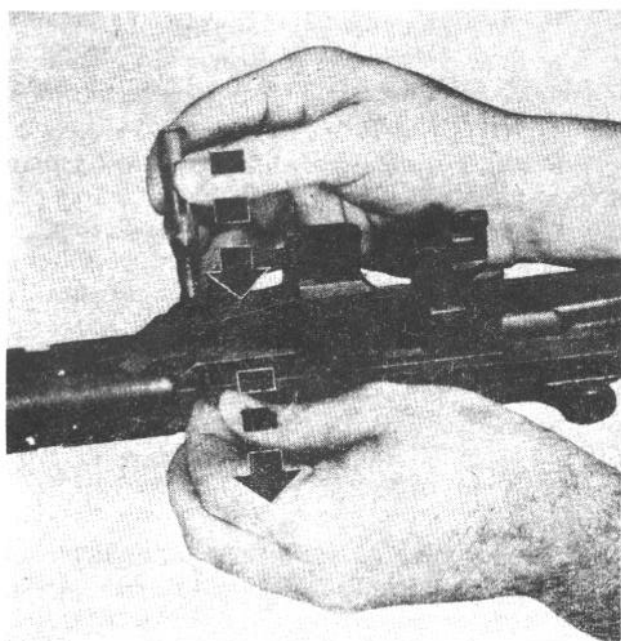

Figure 5. Removing the follower arm pin.
b. Using the tip of a dummy cartridge, remove the follower arm pin by pushing it from the far side of the receiver toward the body (fig. 5).